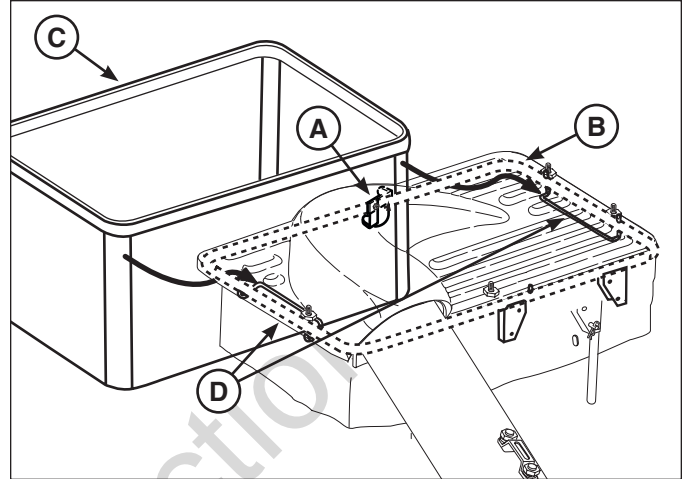

Figure 17
1. Rotate the latch (A, Figure 17) on the catcher frame (B) up to a horizontal position.
2. Slide the grass bag assembly (C) into the brackets (D) on the underside of the catcher frame.